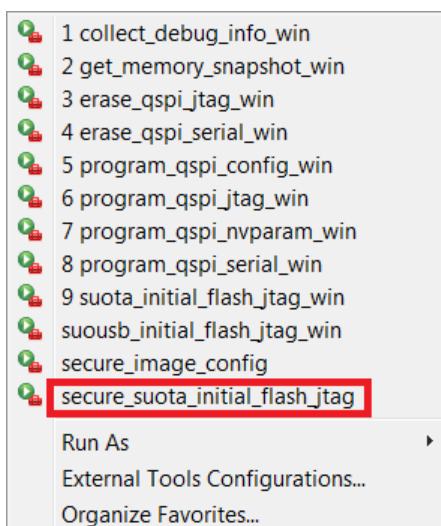

Figure 64: `secure_suota_initial_flash_jtag` script
12. Use `secure_suota_initial_flash_jtag` python script as shown in Figure 64. This script is used to save all generated keys and the secure bootloader in OTP memory and then flash the selected application in secure mode into DA1468x board.